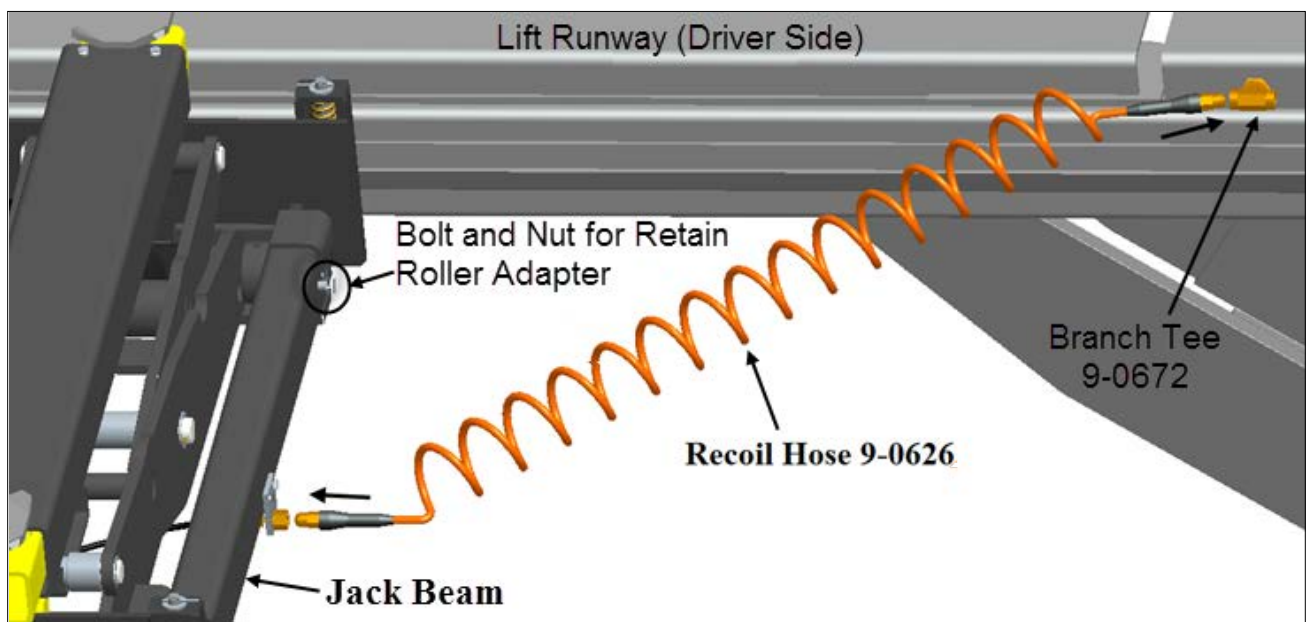

Figure 6-Recoil Hose Connection
6. Tighten the bolts and nuts to retain the roller adapters. See **Figure 6**.
9. Remove 1/4" plugs at the branch tee on the lift. Attach one end of the recoil hose to the terminal on Jackbeam base frame, then attach the other end of the recoil hose to the branch Tee fitting on the side of the lift runway. See **Figure 6**.